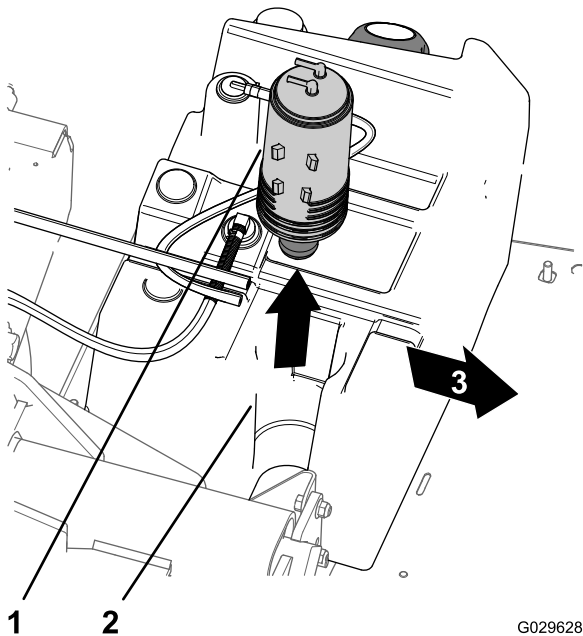

Figure 54
- Lift the carbon canister from the carbon-canister mount in the fuel tank (Figure 54).
7. Insert the new carbon canister into the carbon-canister mount of the fuel tank with the purge and fuel tank fittings aligned rearward (Figure 54).